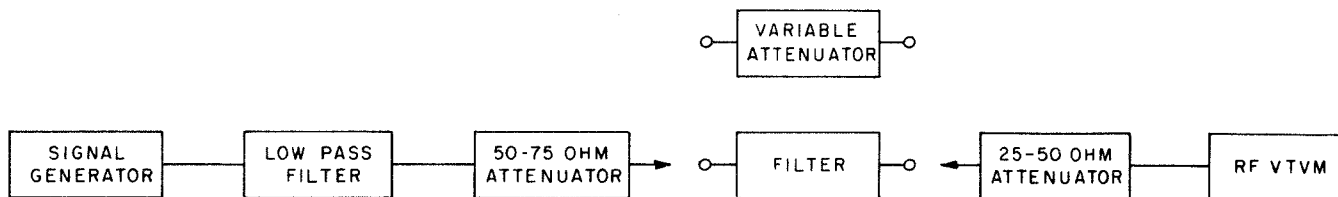

Figure 5-2. Test Setup, Alignment of Input Filter
b. **ALIGNMENT.** Set up the equipment as shown in figure 5-2. Set the signal generator to 1.4 mc and adjust L205 and L207 for a minimum response on the r-f vtm. After obtaining a minimum on the vtm substitute the attenuator for the filter. Adjust the attenuator to give the same reading on the vtm as obtained after the filter was adjusted. Attenuator should be set for at least 40 db. Repeat the above, supplying a 50 mc signal and adjusting C201 and C203 for a minimum. Forty db attenuation is required for this adjustment also to check the band pass input signals in the range of 2 to 32 mc. The meter reading should not be more than 1/2 db lower than that obtained with the filter removed and substituted with an attenuator set at 0 db attenuation.